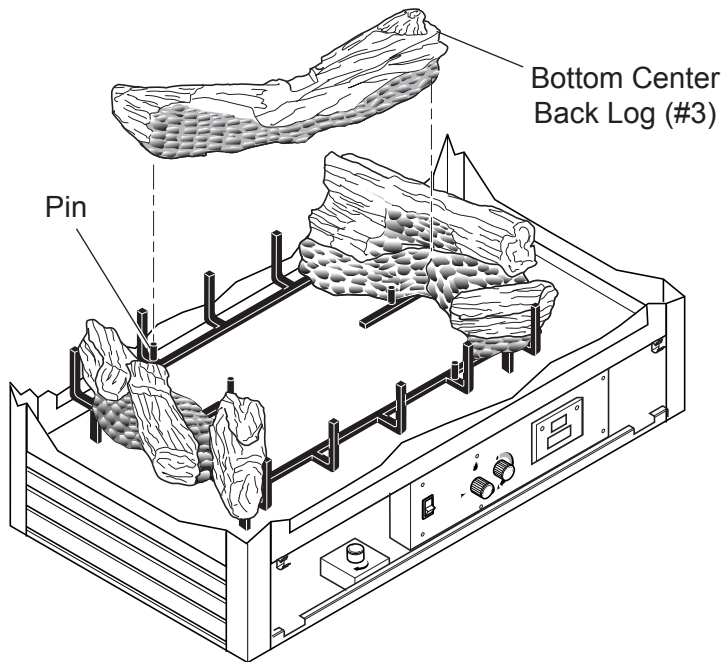

Figure 45 - Installing Bottom Center Log (#3)
5. Position left end of bottom center back log (#3) beside rear end of left log (#1). Line up pin on grate with pin hole in bottom of center back log (#3). Snug right end of bottom center back log (#3) to the middle of right log (#2). See Figure 45.